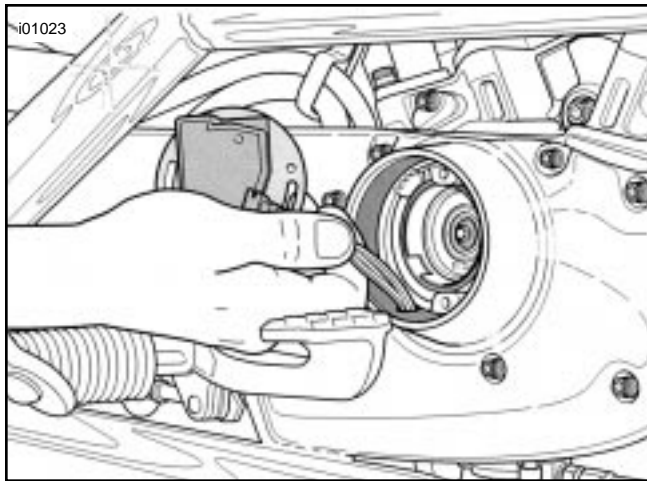

Figure 2. Removing Module Plate
7. See Figure 2. Remove module plate and wires.